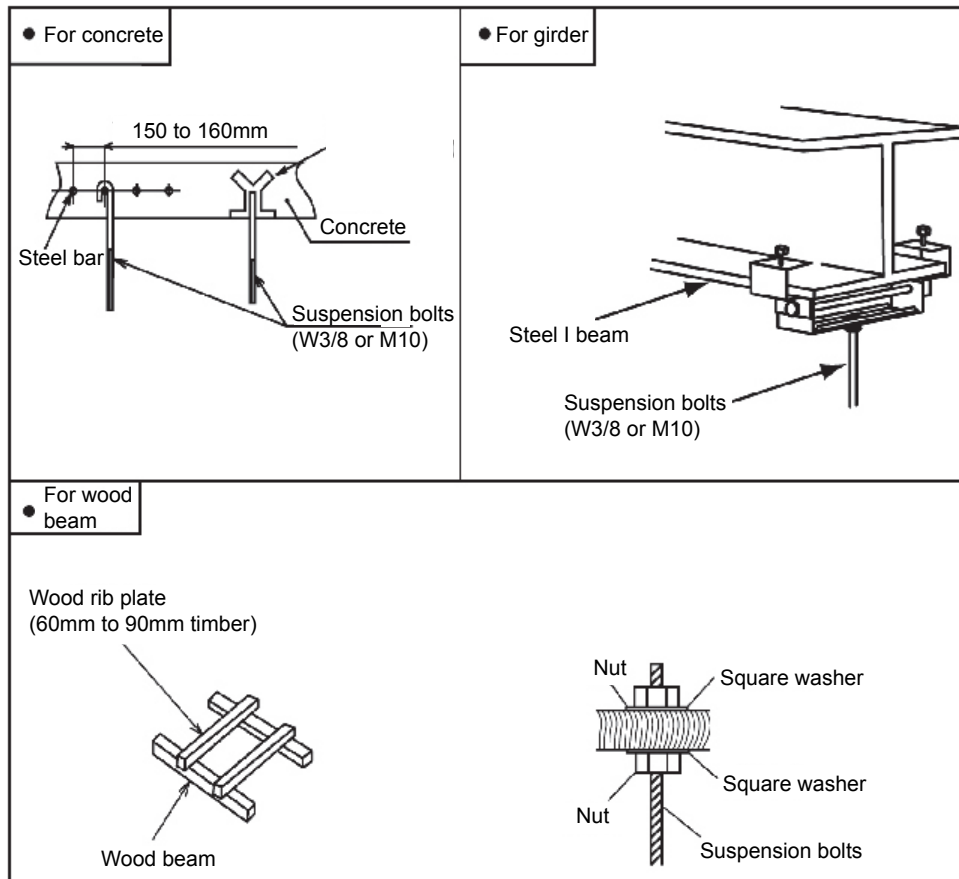

Fig. 4.2 Fixation of suspension bolts
(1) Select final location and installation direction, paying careful attention to the space for piping, wiring and maintenance.
(2) The installation of suspension bolts is as shown in Fig. 4.2 below.